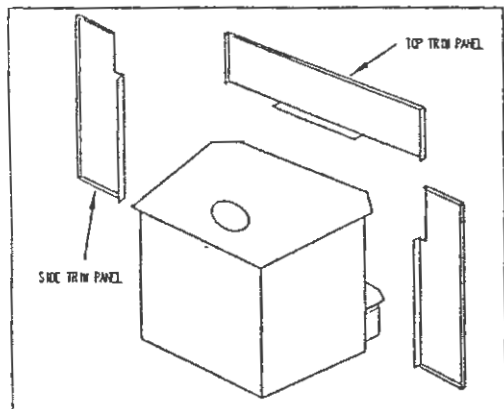

FIGURE 4
5. Mount the side trim panels. (See Figure 4)
6. Mount top trim panel to side panels with screws provided as indicated in Figure 4.